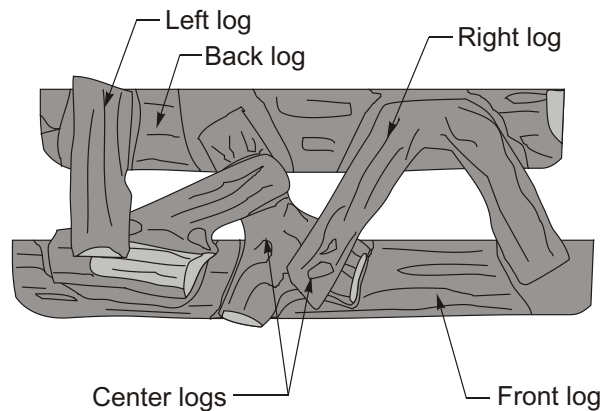

Figure 8b. Proper top log placement (top view).
4. Place the top logs in position as shown in figures 8b and 8c.